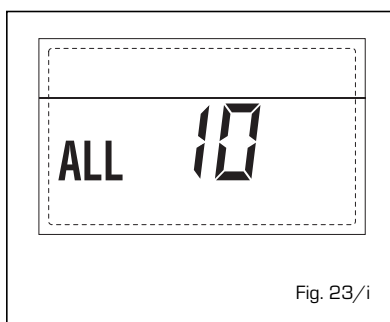

Fig. 23/i
- ACTIVATION OF THE "ALL 13" EXHAUST FUMES PROBE (fig. 23/l)